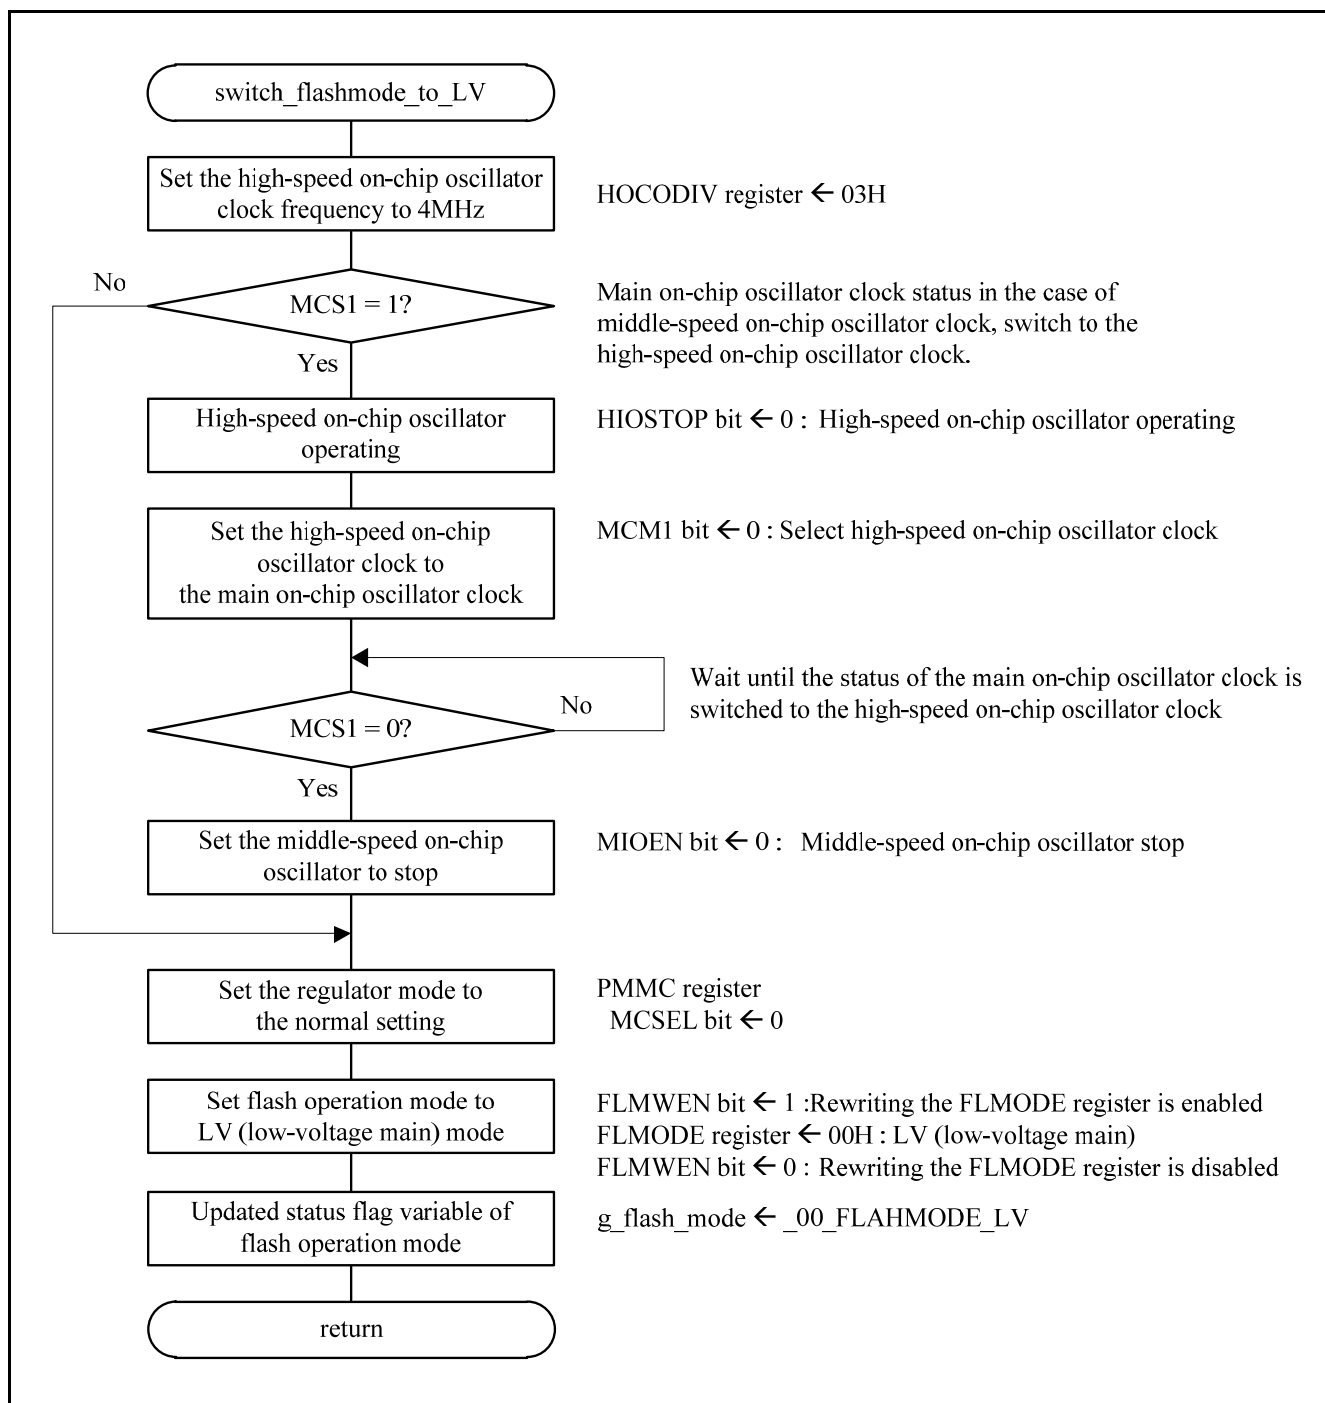

Figure 4.14 Flash operation switching (LV) processing
Figure 4.14 shows the flowchart of the flash operation mode switching (LV) processing.